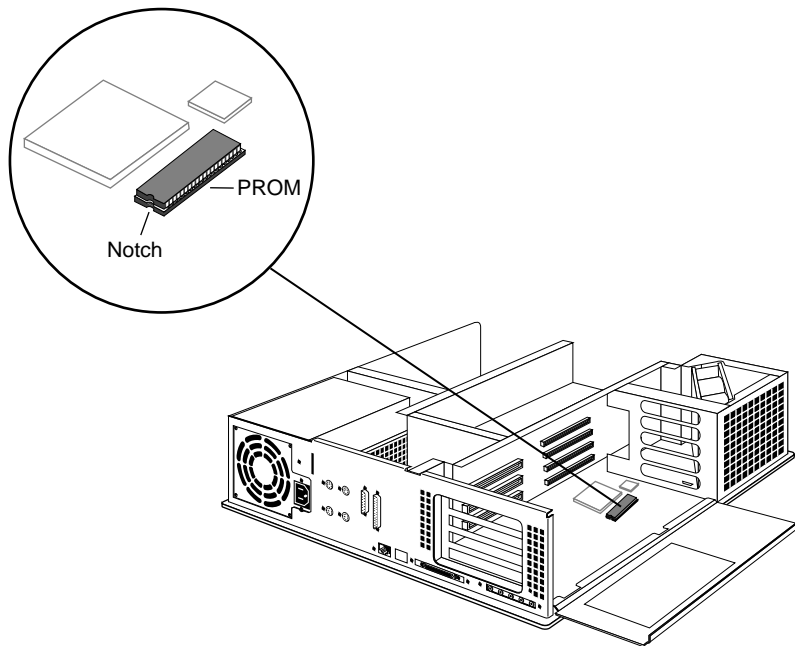

Figure 9-7 Locating the PROM Chip on the System Board
3. Locate the PROM chip. It is located in a socket on the system board on the bottom of the workstation. See Figure 9-7.
4. Before removing the PROM chip, familiarize yourself with it. Note that it has a semicircular notch at one end, as shown in Figure 9-7. You'll use this notch to orient the new PROM when you install it.